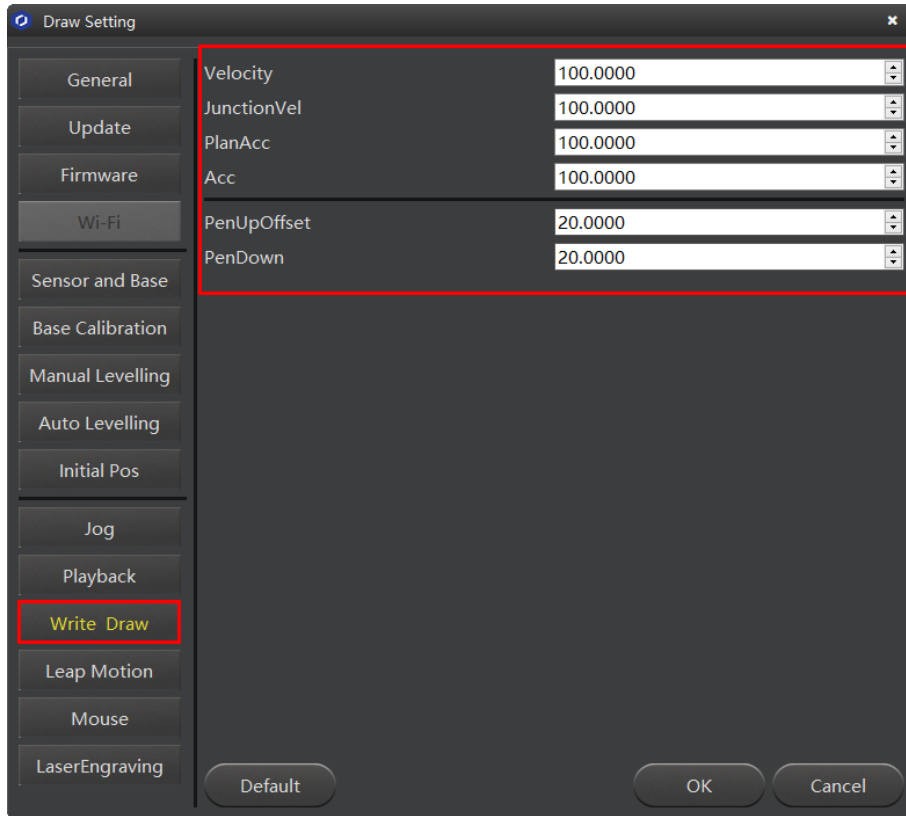

Figure 5.76 Setting the parameters of the Write & Draw function
2. Click **Write & Draw** to set the Dobot Magician's **Velocity** (mm/s), junction velocity (**JunctionVel**: mm/s), **PlanAcc** (mm/s²), acceleration (**Acc**: mm/s²), **PenUpOffset** (mm), **PenDown** (mm), as shown in Figure 5.76.